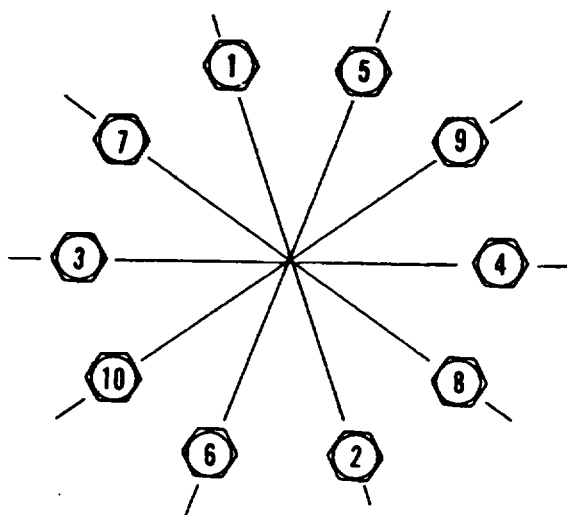

Figure 4-59. Tightening Order for Wheel Stud Nuts.
(3) Installation. Position inner wheel over studs on axle hub. Replace ten inner stud nuts, lower tire to ground, and tighten to 450-500 lb-ft using sequence in figure. Jack up axle and position outer wheel over inner stud nuts. Lower tire to ground, and using sequence in fig. 4-59. Tighten nuts to 450 to 500 lb-ft.